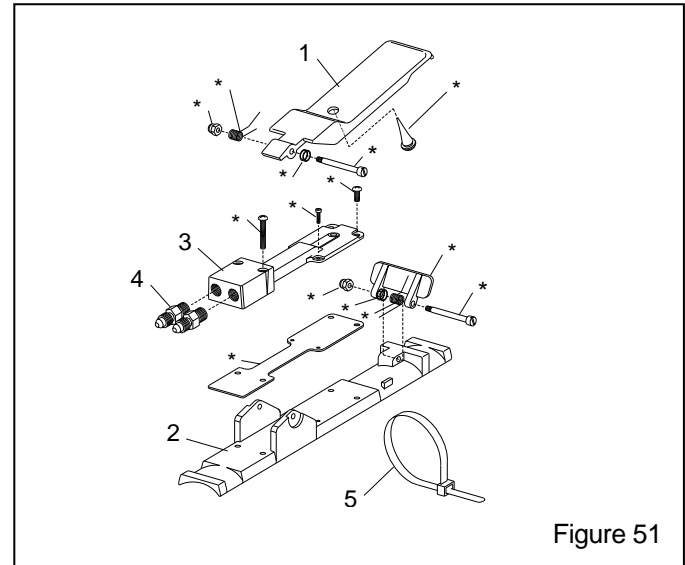

Figure 51
9.8 RLX Pneumatic Control Handle, Figure 51